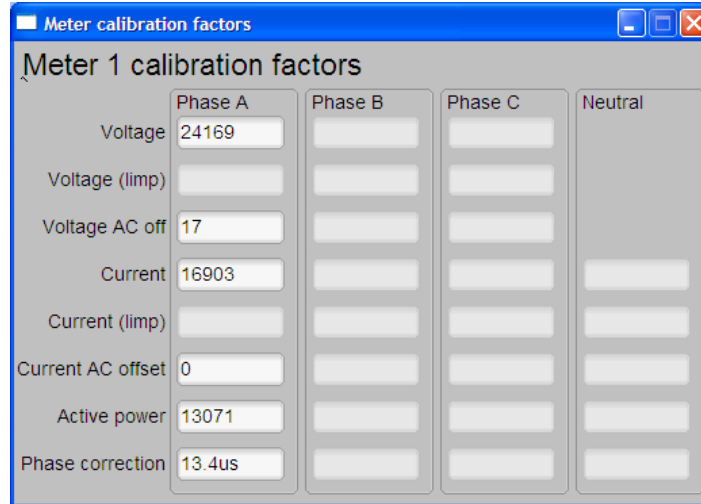

**Figure 7. Meter Status Window**
2. Click on the [Comms] indicator the [Meter Status] window will appear, as seen in Figure 7
Figure 7 shows the current reading of the meter. The background of a reading box is gray if the EVM does not support that particular reading. It turns red if the reading from EVM to that box has a large variance. It turns yellow if the reading from EVM has a fairly low variance. It turns green if the reading has a low variance. Note that the software on PC reads the EVM every second and it also do some averaging to the data read, thus the update rate is slower than the update rate of the EVM.